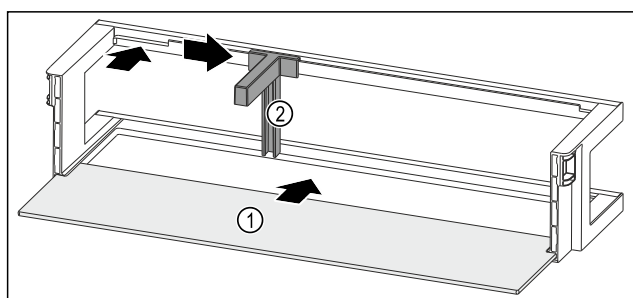

Fig. 97 Door rack with shelf
- ▶ Push the shelf Fig. 97 (1) into the side recesses.
- ▶ Insert the bottle holder Fig. 97 (2) in the recess.
- ▶ Push the bottle holder Fig. 97 (2) to the desired position to the side.